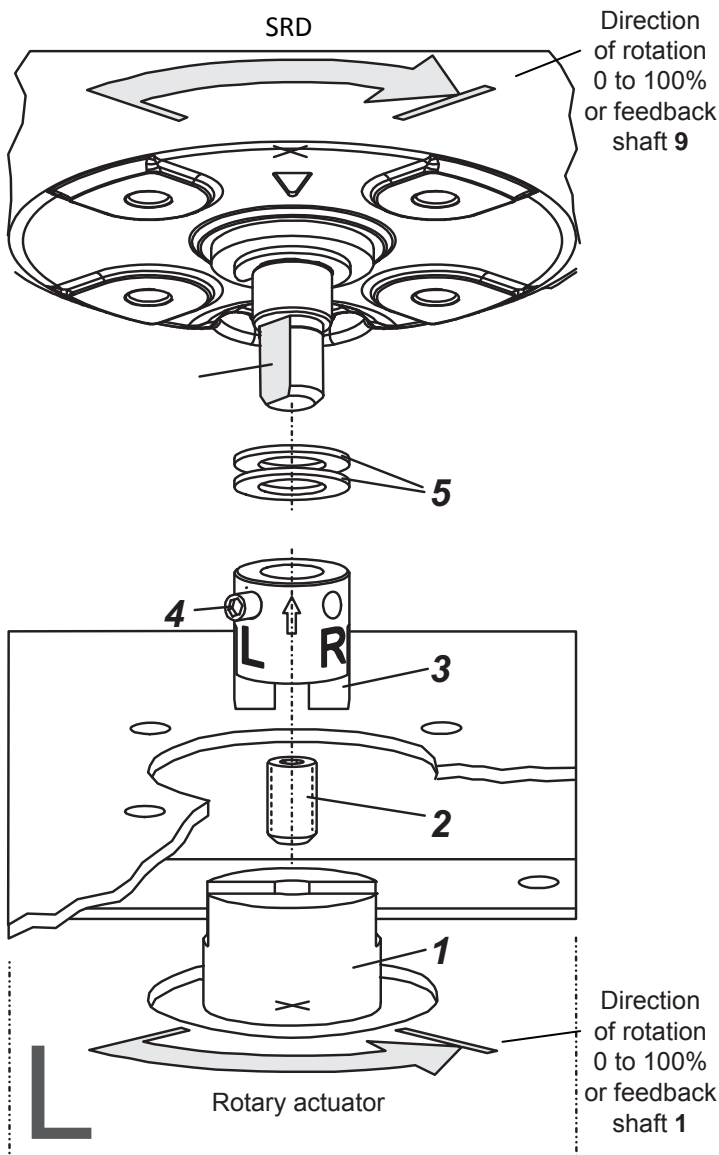
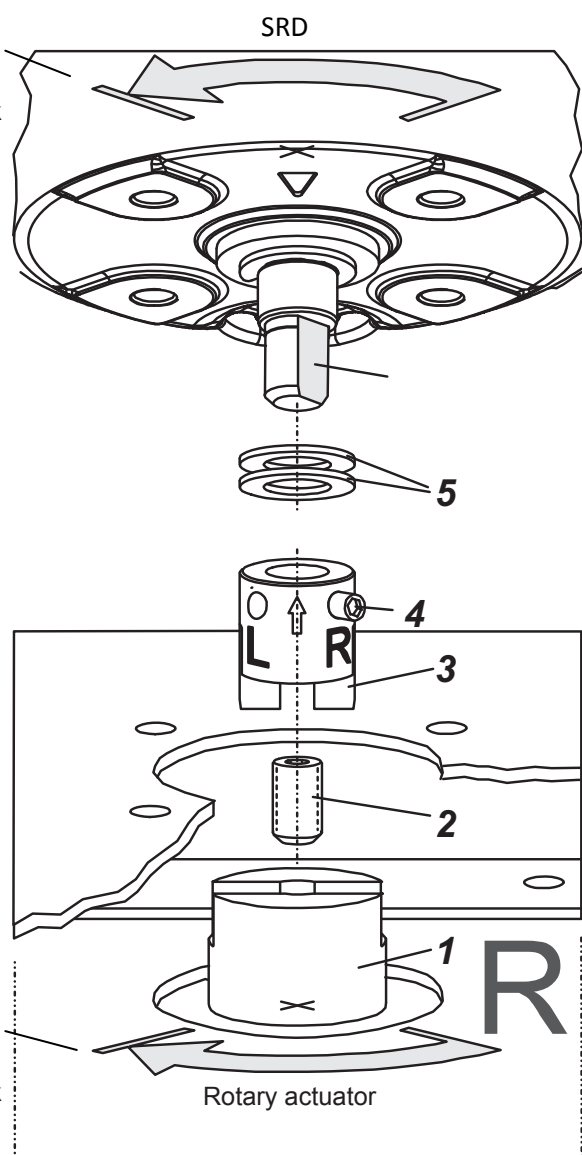

Figure 27: Mounting if actuator is left-rotating
Figure 28: Mounting if actuator is right-rotating
- For attachment to a counter-clockwise or left turning actuator secure the stud screw **4** in the threaded hole "L" of the rotary adaptor; hole "R" remains open. See Fig. 27.
- For attachment to a clockwise or right turning actuator secure the stud screw **4** in the threaded hole "R" of the rotary adaptor; hole "L" remains open. See Fig. 28.
Finally turn the feedback shaft in such a way that the arrow of the coupling points to the arrow of the SRD housing. Beginning and end positions of the actuator drive shaft **1** and feedback shaft **9** are marked in figure 27 (left-rotating actuator) and in figure 28 (right-rotating actuator) by arrows for the respective direction of rotation. The feedback shaft is now in the normal position corresponding to the failsafe position of the actuator.